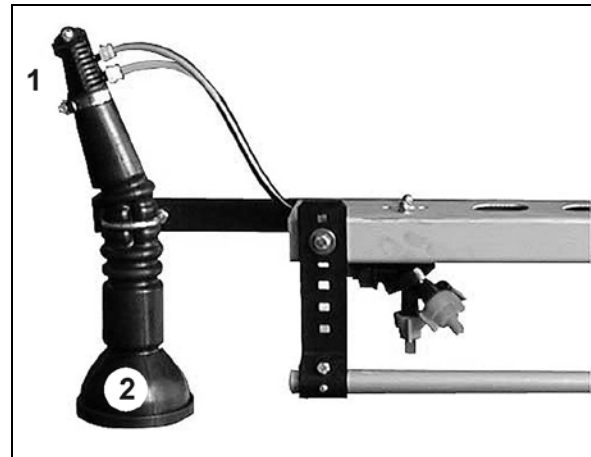

Fig. 107
- the DUS switchover tap (Fig. 107/1).
- the DUS pressure relief valve (Fig. 107/2). The DUS pressure relief valve is permanently set at the factory and reduces the pressure in the pressure circulating system to 1 bar.
→ If the DUS switchover tap is in position (Fig. 107/A), the pressure circulating system is switched on.
→ If the DUS switchover tap is in position (Fig. 107/B), the pressure circulating system is switched off.
→ if the DUS switchover tap is in position (Fig. 107/C), liquid is released from the field sprayer.